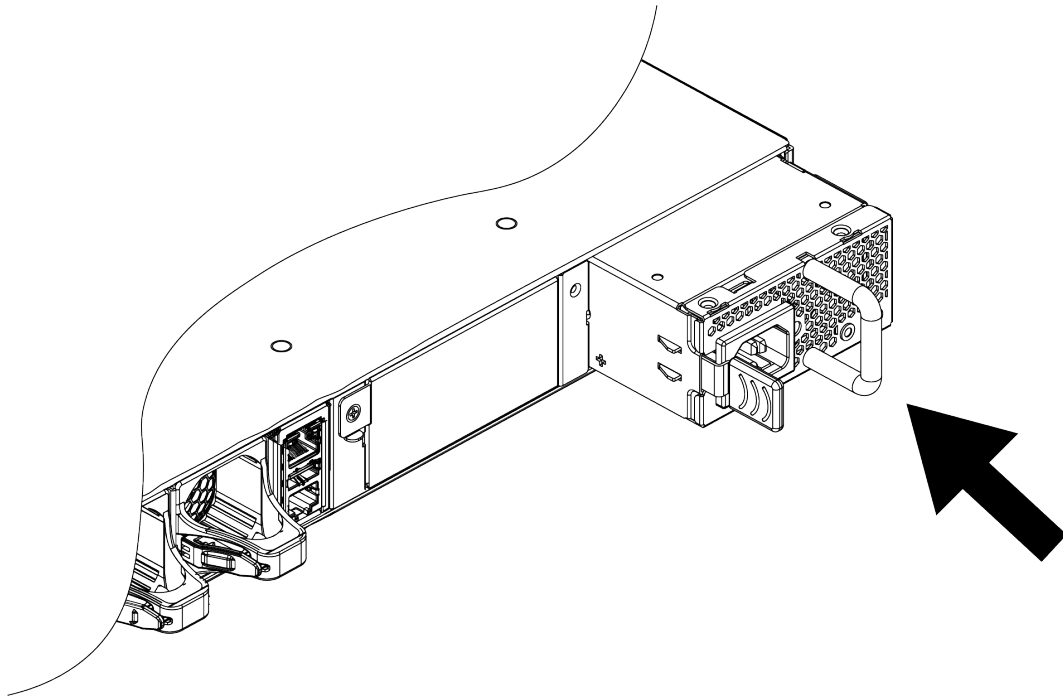

Figure 48: Installing an 1100 W AC Power Supply
6. Carefully slide the power supply all the way into the power supply bay, as shown in Figure 48.